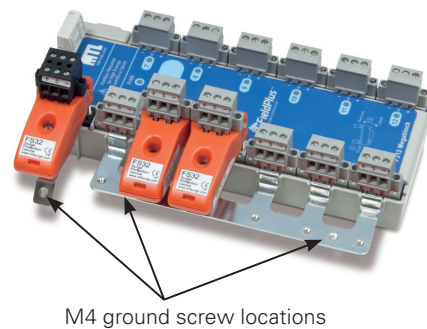

Figure 5.7: With some FS32 modules
4. Use an M4 screw and ring terminal to connect *each* grounding bar to a suitable low-impedance ground point- see Figure 5.7.